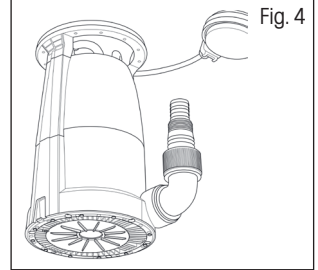

Fig. 4
3. Low Suction function – the pump can be used without covers to achieve complete suction of the water. This function is useful in case of flooded cellars or other areas. Water should be free of solid impurities. The residual level reaches only 1 mm (Fig. 4). For this function, we recommend using a hose check valve.